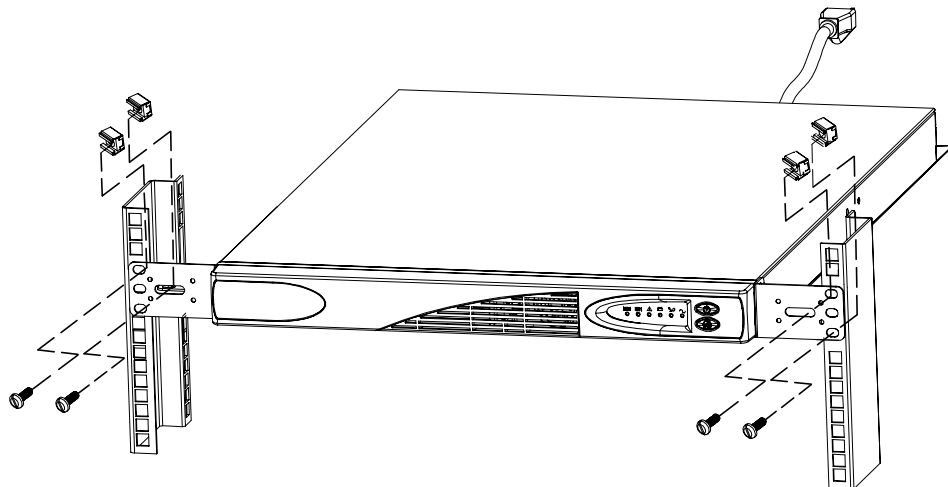

Figure 8. Securing the UPS in a 23" Rack
4. After installing the UPS chassis, secure the front of the UPS to the rack using the supplied hardware (two M6 × 10 screws and two clip nuts on each side, as shown in Figure 8).